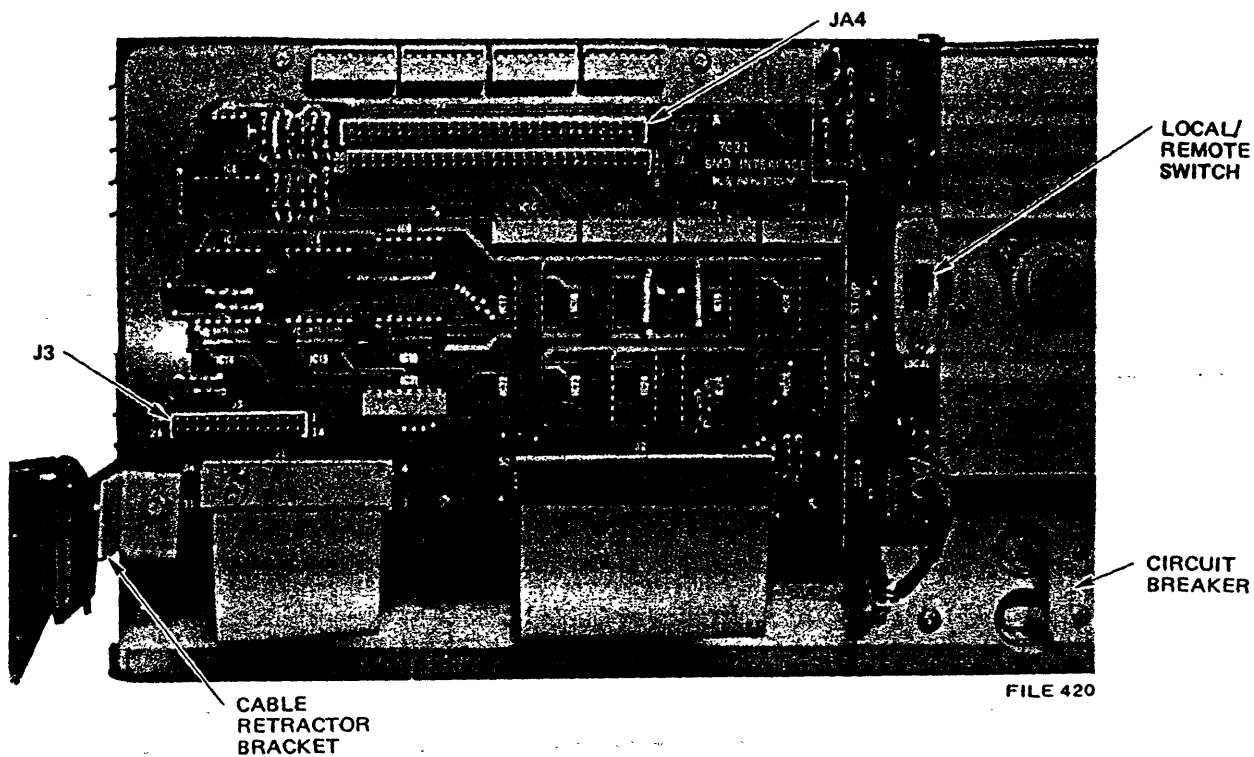

Figure 20-6. SMD Interface PCBA
- e. Install the cable retractor bracket (reference Figure 20-6).
- l. Attach the cable retractor to the mounting bracket on the right side of the drive (Figure 20-6).